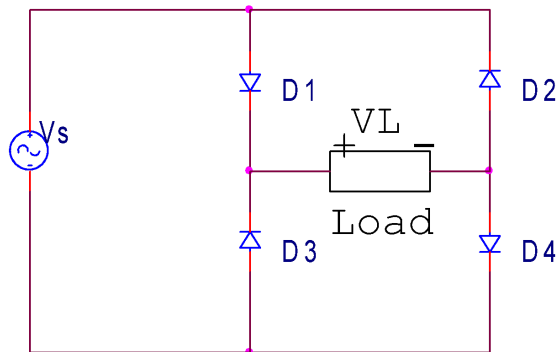

Figure 8: Full-wave rectifier circuit
- Using the 1N4004 Diodes, build the full-wave rectifier shown below (Figure 8). Use a 1 k Ω resistive load. Set the source to a 4 Vpp, 250 Hz sinusoidal signal. Verify that the load voltage is consistent with expectations. Measure the average load voltage.